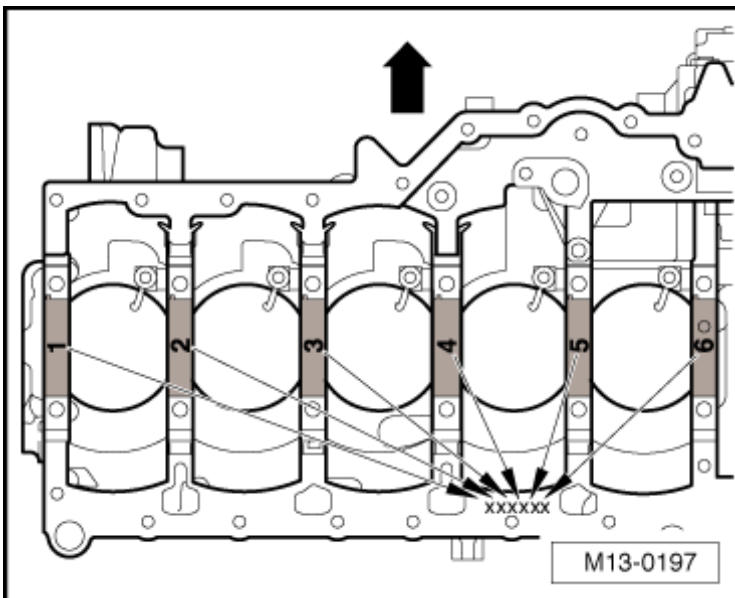

Fig. 16: Identification Of Top Crankshaft Bearing Shells
- Identification for replacement part ordering, refer to **Fig. 16**.